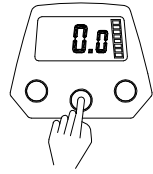

Figure 9-1-1
1. When in line out state, pressing the MENU key for 2 seconds will appear the set line number (Figure 9-1-1).